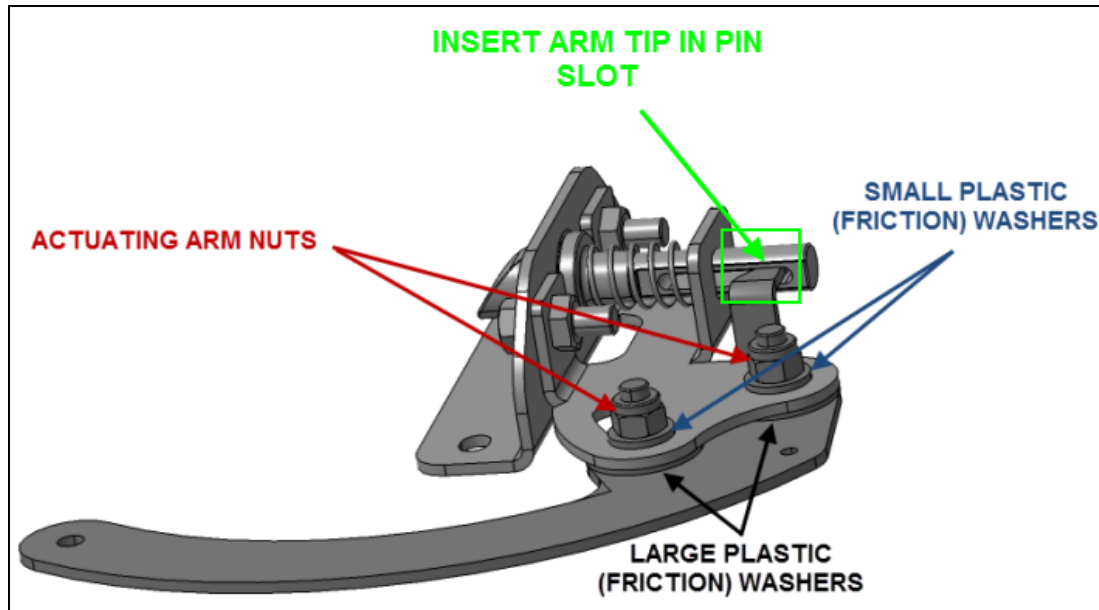

FIG.8 LATCH PIN ENGAGEMENT & FRICTION WASHERS STACKING ORDER
- Engage the arm tip into the pin slot and reinsert the arm bolts into the bracket. *Hand tight* the two arm lock nuts (with small plastic washers). *Do not forget to insert the two large plastic washers between the arm and the bracket (Fig.8).*